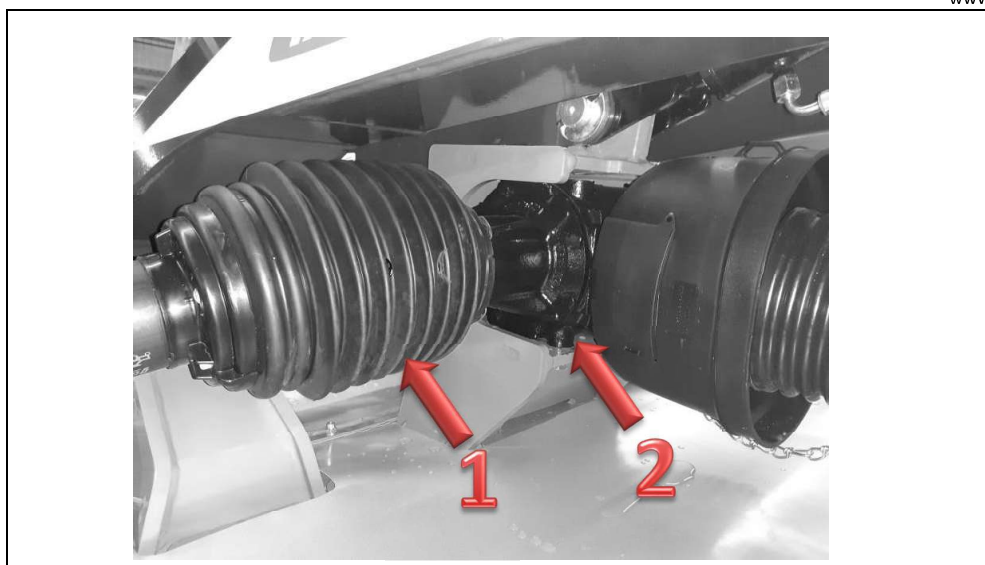

Fig.12 Removing the central gear unit
1. Remove the PTO shaft from the central gearbox, (1) in Fig.12
2. Unscrew the eight M16x35 bolts, (2) in Fig. 12
4. Rotate the gear unit by 180 degrees as shown in Fig.12
5. Remove the PTO shaft guard, (1) in Fig.14, and swap its position with the position of the gear plug guard, (2) in Fig.12
6. Tighten the eight M16x35 bolts referred to in item 2.
7. Mount the PTO shaft on the central gear unit, (1) in Fig.12